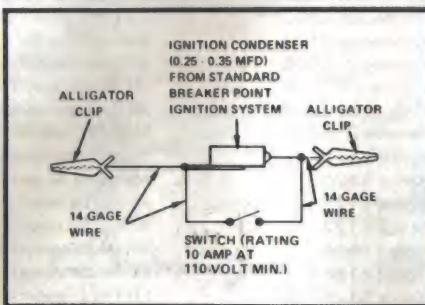

Figure 1 – Ignition Test Jumper
Make up a test jumper as shown in Figure 1 below. It is important to use only this test jumper when making these checks. Solid wire jumpers will not work for the quick checks.
- b. Unplug connector at **TFI Module**. In the harness side of the connector, connect the special test jumper (Figure 1) between ground and the DG/Y D lead. Use a straight pin in connector socket hole to make contact.